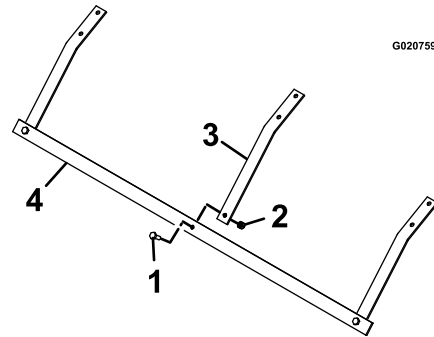

Figure 3
1. Assemble the three short support straps under one of the long support straps using the hardware shown in Figure 3.